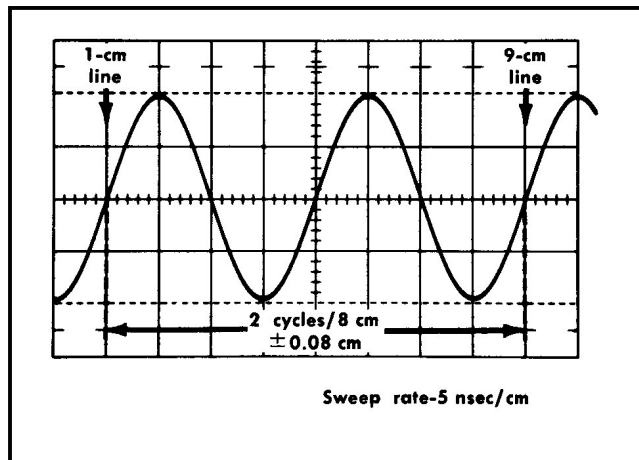

Fig. 5-20. Typical indicator oscilloscope display for checking the adjustment of C325.
f. Position the display with the TIME POSITION control so that a rising portion of the waveform crosses the 1-cm graticule line where it intersects the horizontal centerline (see Fig. 5-20).